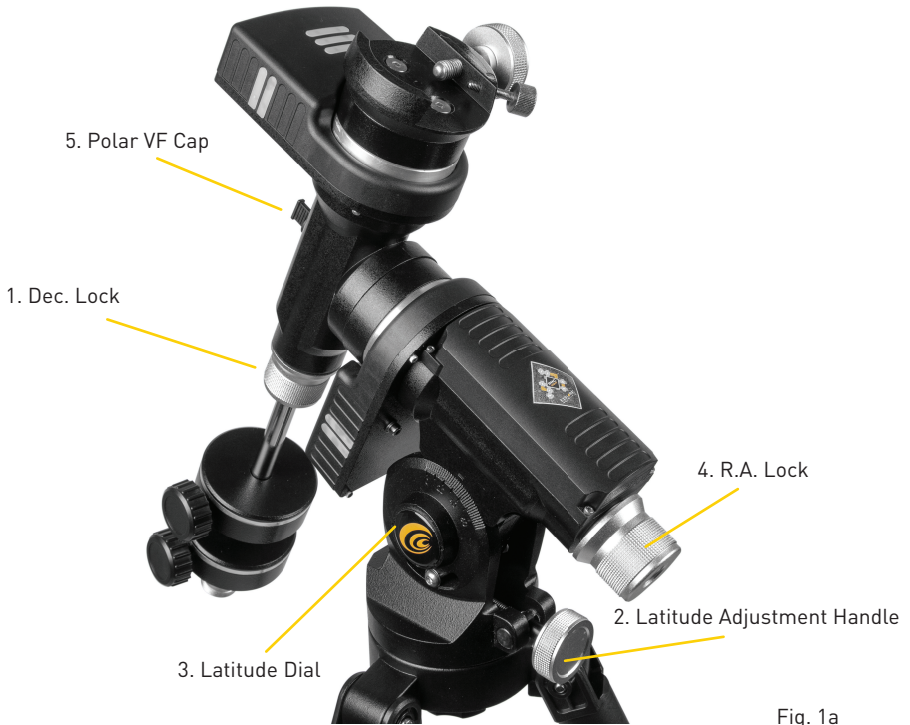

Fig. 1a
2. Unlock the R.A. Lock (4, Fig. 1a) Rotate the Optical Tube Assembly until the counterweight shaft is pointing straight down over the mount.
3. If you have not already done so, lift the telescope assembly and turn it so that the tripod leg beneath the counterweight rod faces approximately North (South in the Southern Hemisphere). Release the Dec. lock (1, Fig. 1a) of the tripod, so that the optical tube may be rotated. Rotate the optical tube until it points North (or South in the Southern Hemisphere). Then re-tighten the lock. Locate Polaris, the North Star, if necessary, to use as an accurate reference for due North (or Octantis in the Southern Hemisphere).
4. If you have not already done so, determine the latitude of your observing location. Visit the LATITUDE AND LONGITUDE TOOL at explorescientific.com/latitude_longitude/ to find latitudes of any place on Earth. Once you have found your observing location, use the Latitude Adjustment Handle (2, Fig. 1a) to tilt the telescope mount so that the pointer indicates the correct latitude of your viewing location on the latitude dial (3, Fig. 1a).